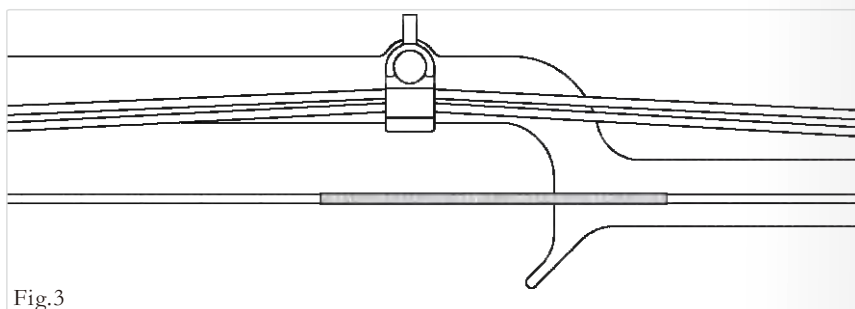

Fig.3
- The cable slide has grooves built in to prevent the two cables rubbing and fraying. (Fig. 3)